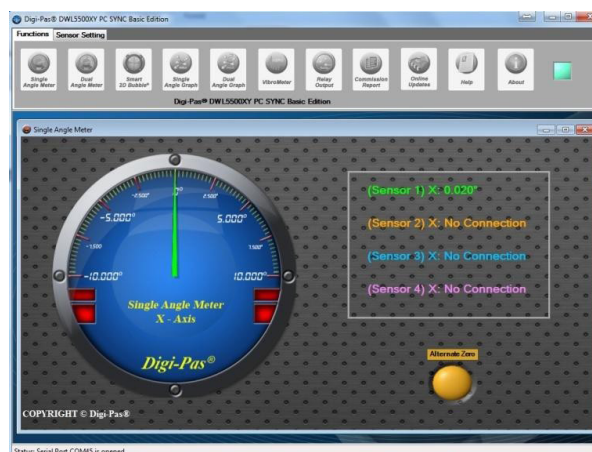

Figure 21. Interface of the PC SYNC software with Single Angle Meter feature
4. Screen as illustrated in Figure 21 appears. The feature icons are enabled and ready for selection (e.g. Single Angle Meter, Dual Angle Meter...). Following is an example when Single Angle Meter feature icon is clicked.